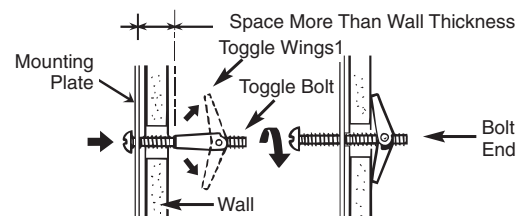

Figure 31
4. Attach the plate to the wall. To use spring toggle head bolts: Remove the toggle wings from the bolts. Insert the bolts into the mounting plate and replace the spring toggle head to 3/4 past the bolt ends. Insert the spring toggle head into the holes in the wall to mount the plate. You may pull forward on the plate to help in tightening the toggle bolts. Tighten all bolts. See Figure 31.